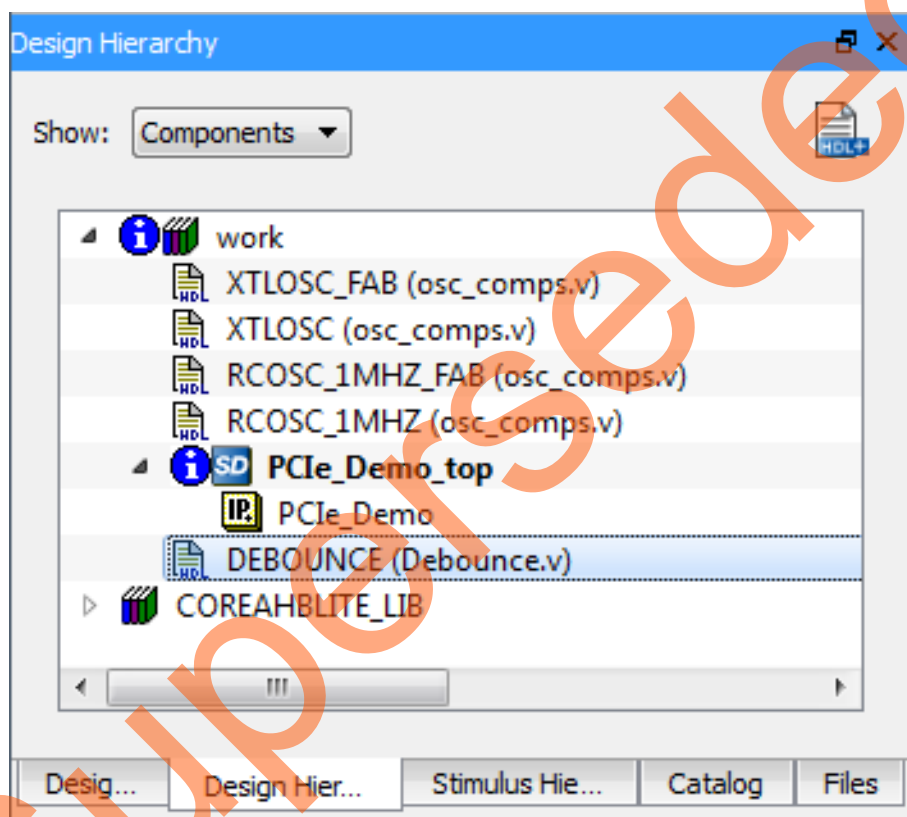

Figure 13 • DEBOUNCE Component in the Design Hierarchy Window
2. Browse to the **Debounce.v** or **Debounce.vhd** file location in the design files folder: *M2GL_PCIE_Control_Plane_DF\Source Files*. Figure 13 shows the **DEBOUNCE** component in the **Design Hierarchy** window.